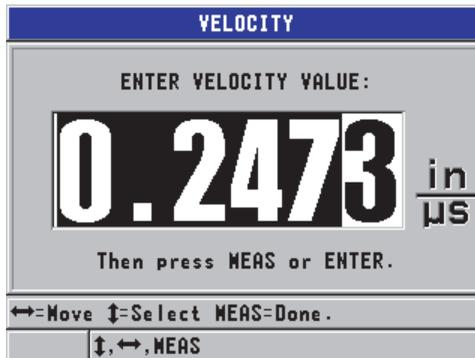

Figure 5-9 Entering a known material sound velocity
2. In the **VELOCITY** screen (see Figure 5-9 on page 58), use the arrow keys to edit the velocity to the known value.